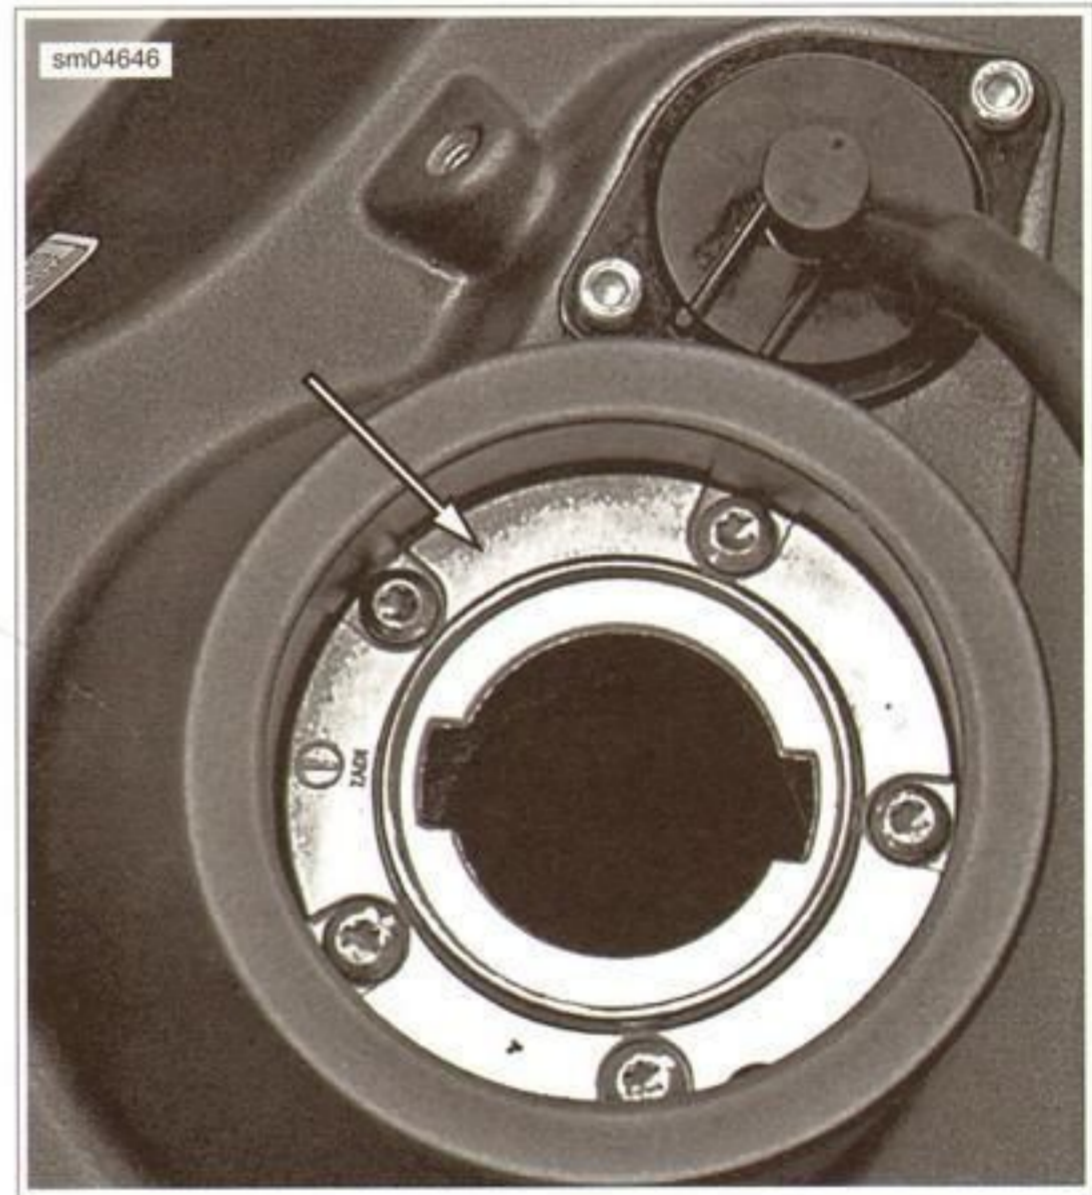

Figure 4-53. Fuel Tank Filler Neck
3. See Figure 4-53. Remove fasteners securing fuel cap retaining ring to fuel filler neck.